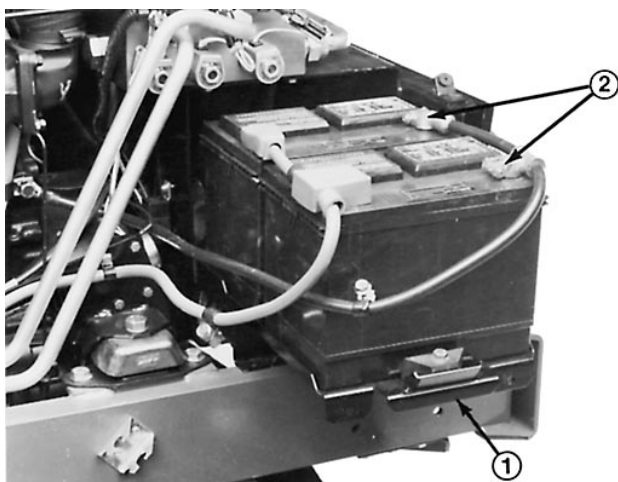

Figure 51
2. Remove the capscrews securing the battery tray to the machine and slide the tray out (Fig. 51).
4. Remove the negative (-) battery cable connectors from the batteries (Fig. 51). Connect a 3- to 4-amp battery charger to the posts. Charge the batteries at a rate of 3 to 4 amperes for 4 to 8 hours.